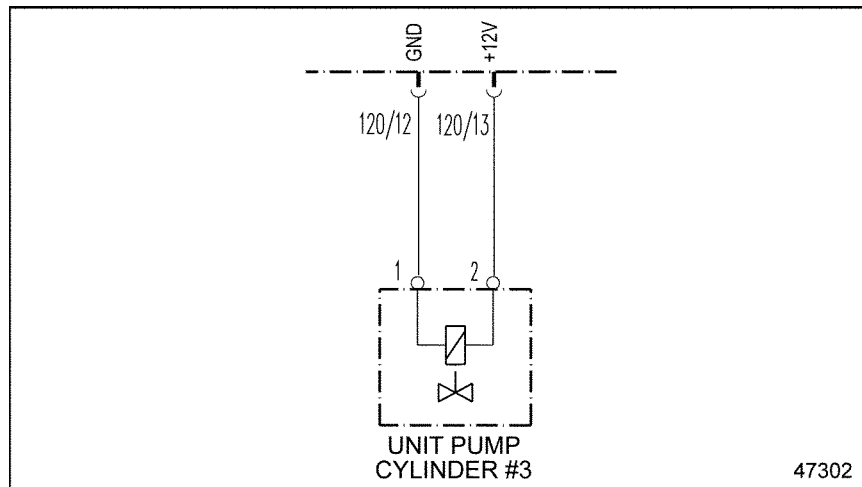

Figure 47-1 Electronic Unit Pump #3
2. Measure the voltage between pins 1 and 2 of Electronic Unit Pump #3. See Figure 47-1.